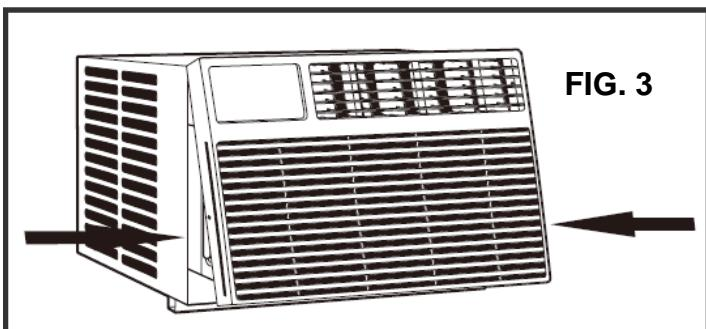

FIG. 3
4. After removing the screws, gently pull away the faceplate from the air conditioner cabinet (FIG. 3 & 4).